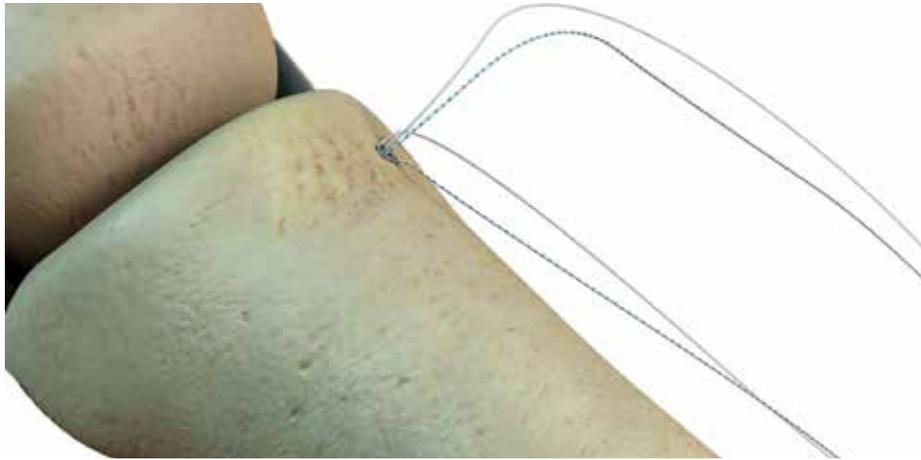

Figure 22
4. Hold the MTP joint in the reduced position with plantar flexion and a slight deviation to the repair side. Maintaining the suture tension, insert the cannulated screw into the tunnel until it is flush with the surface of the bone, being careful not to exert excessive force (Figure 22).